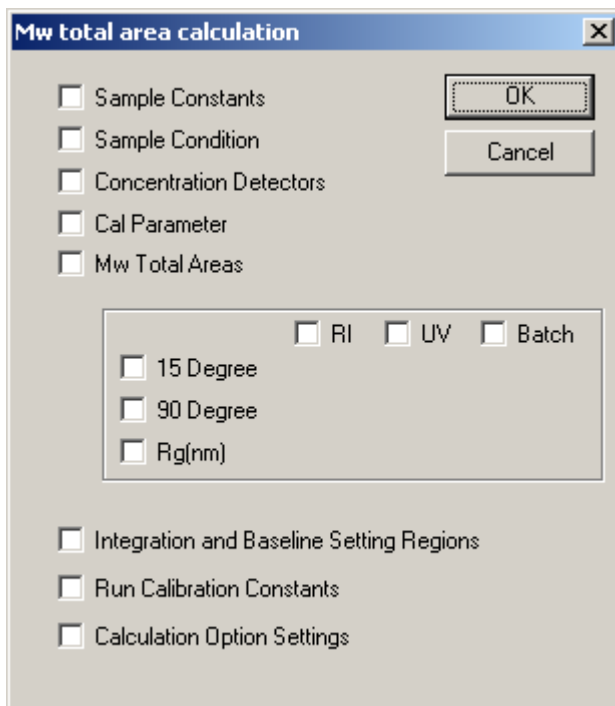

Figure 9-8: The Mw Total Area Calculation Dialog Box
- a) Click the  icon and click the cursor on the desired position in the pane to present the *Mw total area calculation* dialog box (Figure 9-8).